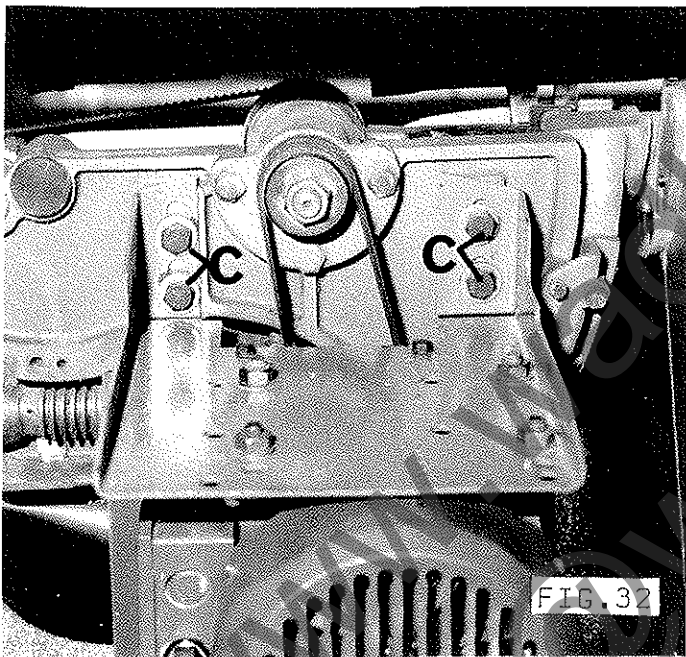

FIG. 32
- 3) Loosen the 4 - M10 hexagon head bolts 'C' FIG.32.